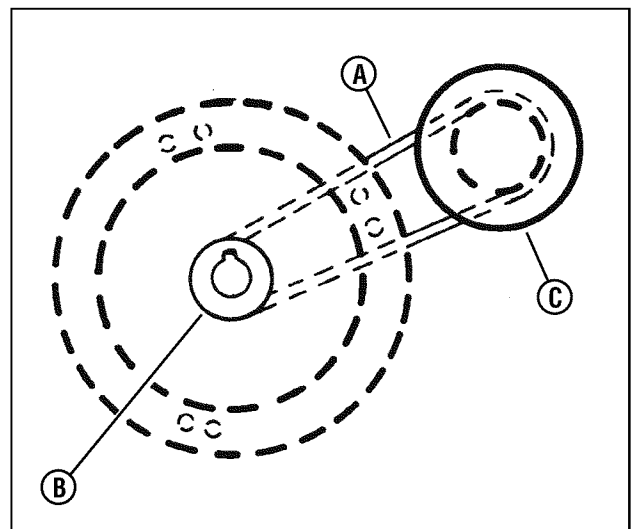

Figure 34: Engine drive belt routing
On self-propelled mowers, the engine belt (**A, Figure 34**) transmits power from the engine pulley (**B**) to the drive disc (**C**). The drive disc powers the poly-v belt, which engages the transmission that powers the rear wheels. Should these belts become worn, they could cause slippage, which would impair mower performance. The condition of the engine belt and poly-v belt should be checked after every 25 hours of mower operation.
2. Note the belt routing (**Figure 34**). There is no idler pulley on these models to disconnect.